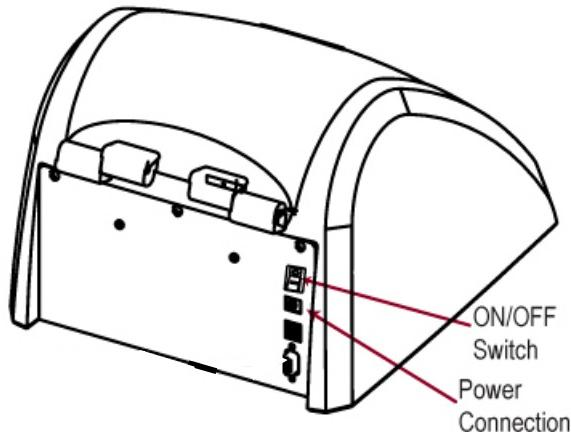
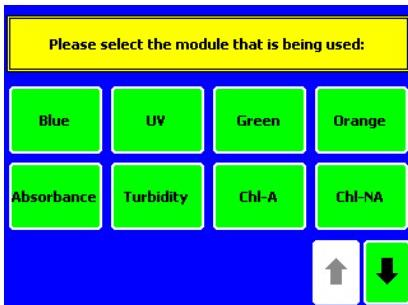

Figure 1.
Figure 3 Module Selection Screen
Connect the power supply into the power connection of the instrument, see Figure 1, and plug it into a wall outlet. See Specifications for power requirements.
2. Turn on the On/Off switch located on the back of the Trilogy, see Figure 1. Verify the display becomes active, and shows the module selection screen; see Figure 3 – Module Selection.